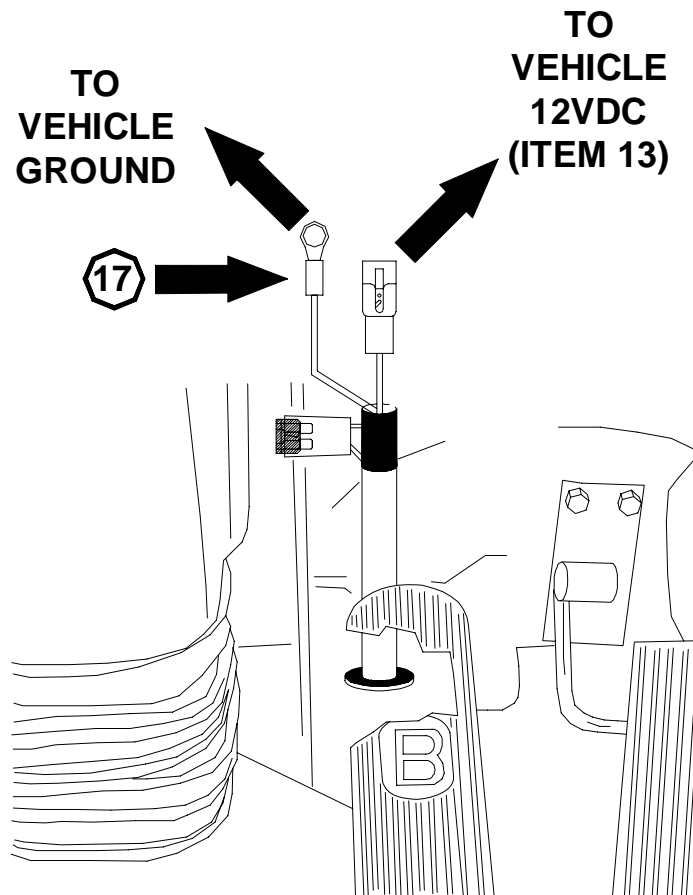

Figure 8
- From under the hood panel, insert power harness (Item #17) red wire connector, the green wire ring terminal and fuse block through the hole directly behind the brake pedal. Install enough of the harness to make connections inside the cab. See Figure 8.